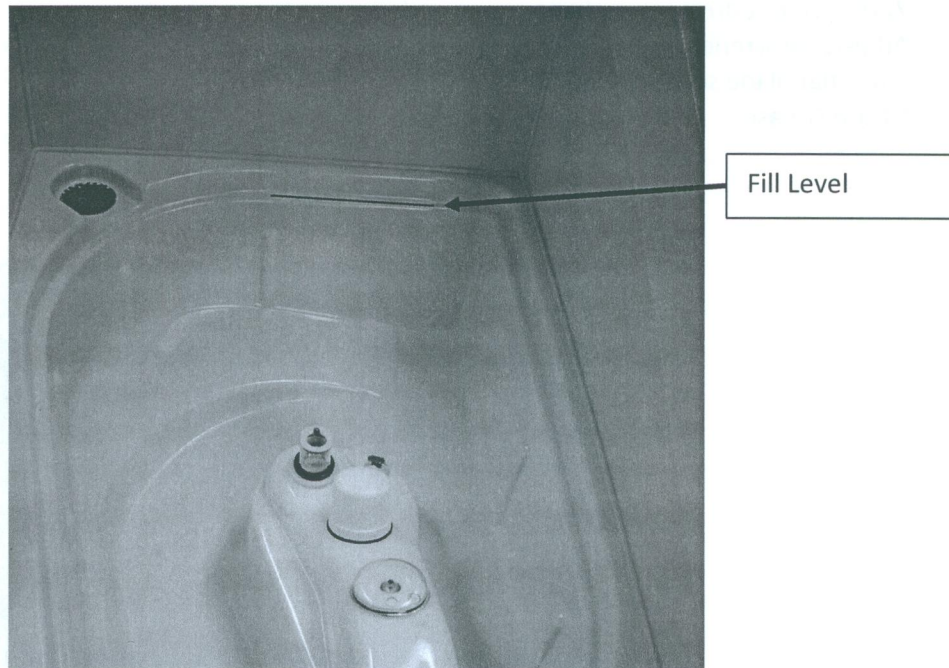

Figure 1 Level Fill Line
The easiest and most accurate method of testing for level is to fill both basins with water until it reaches the lip around the top of the basin. Visually check that the water level is contacting the same point around the circumference of the basin. Refer to figure 1.
2. Adjust the appropriate leveling pads until the (Figure 1) level fill lines shows that both basin "A" and "B" are level.